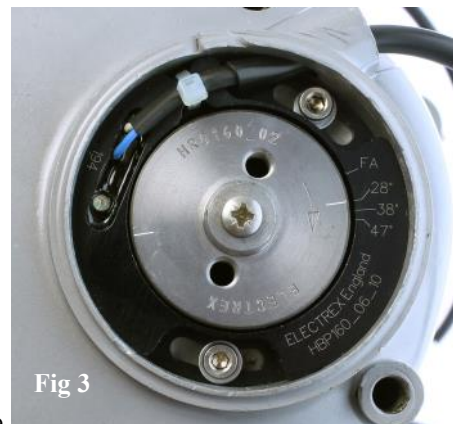

Fig 3
- Step 3** Set piston to TDC. Align either mark on the pulser rotor with full advance setting for the model, see Fig.3, set to 28° for 450 Ducati
**Step 9** Fit the pulser rotor, note this can be fitted in either 180° degree positions as there are identical timing marks at 180° and 2 magnets in the rotor. Fit the original M4 retaining screw. See fig. 3.
**Step 11** The timing can be easily set with the piston at TDC (Top Dead Centre), then by rotating the pulser ring, align the correct full advance setting, as engraved on the ring, with either line on the rotor. Example shown in Fig. 3 is set at 28° for a 450cc engine. This setting can be checked with a strobe light when the engine is running. The line on the rotor should be seen to align with the 'FA' engraved on the ring as rpm is increased.